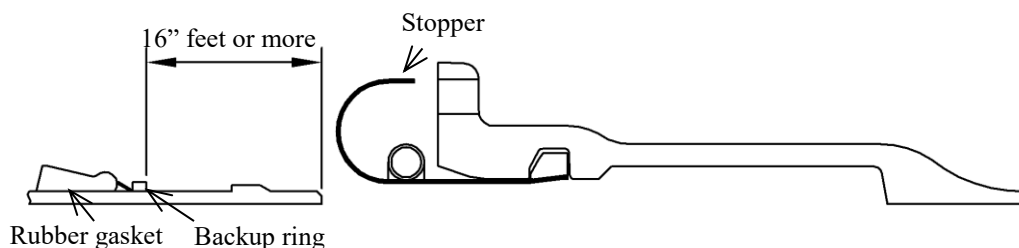

Figure-9 Position of the rubber gasket and the backup ring before jointing
- (1) Clean the rubber gasket and confirm the indication mark ("NS") of the rubber gasket. And then, place the rubber gasket on the spigot, ensuring the direction of the gasket is the same as illustrated in Figure-9.
- (2) Clean the backup ring and put it on the spigot, confirming the direction of the backup ring is the same as illustrated in Figure-9.